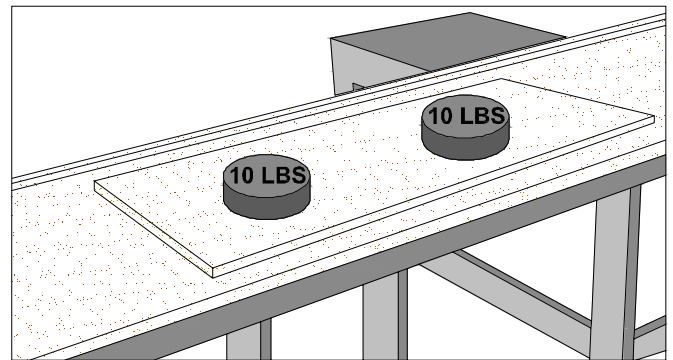

Figure 28B
- Apply pressure directly to the sink ring. (FIG. 28B)
- Place weight on particle board cover. (FIG. 28B)